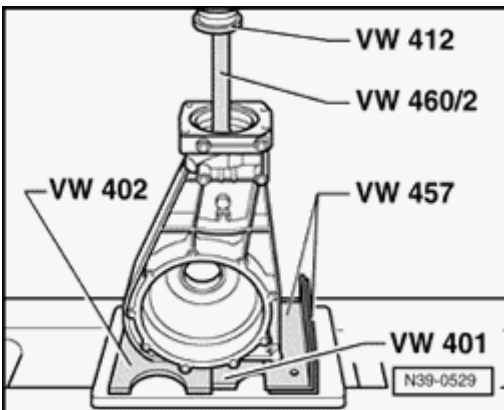

**Fig. 97: Pressing Off Drive Pinion From Inner Race/Tapered Bearing**
- Pressing out drive pinion. See Fig. 97